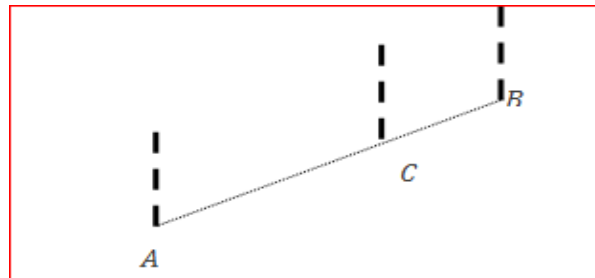

Figure 2.3 Ranging out
- Ranging out done first fix ranging poles at the two end points of the survey line (at A and B in Figure 2.3) and get an assistant to hold another pole near some intermediate point C to make all the three range pole seen as one